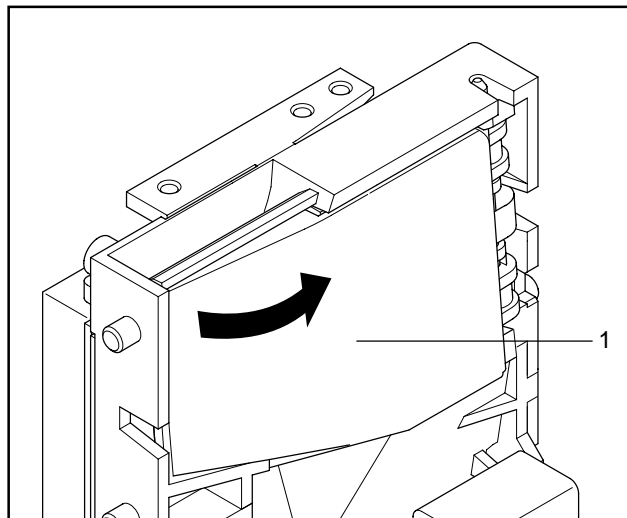

Fig. 8: Open the coin validator's flight deck
2. Carefully open the flight deck **1** on the left-hand side and keep it open (Fig. 8).